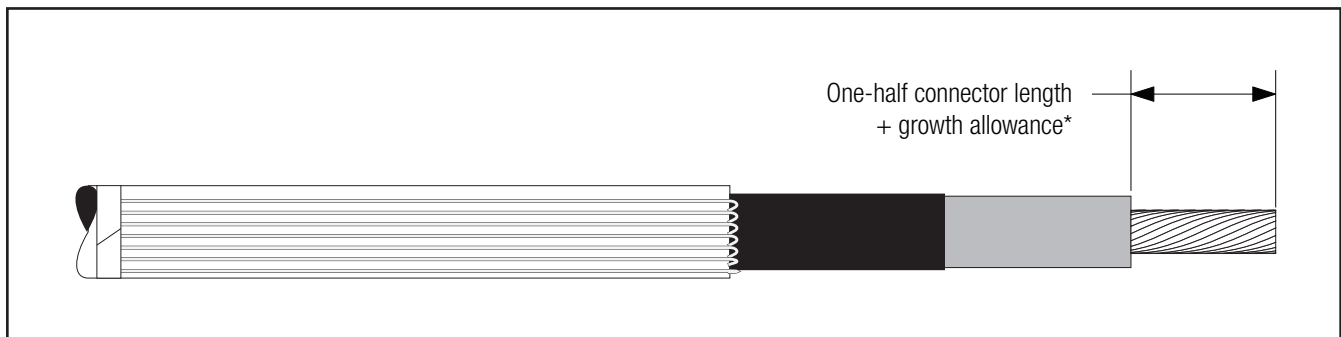

Figure 10
3.3 If using a crimp type connector, remove cable insulation for 1/2 connector length plus an allowance* for increases in connector length due to crimping. Insulation removal length shall not exceed 3 3/4" (95 mm) from conductor end. **Do not install connector now** (Figure 10).